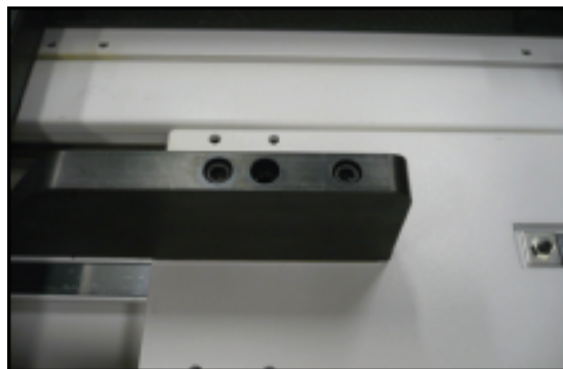

Fig. 29
- Secure kVue to the Exact® couch base using (4) $\frac{3}{8}$ -16 x 4.5" (102 mm) screws provided. The front 2 bolts will be $\frac{3}{8}$ -16 x 5" (114 mm). Torque the 6 screws to 20–30 ft-lbs (34–40 N-m) (Fig. 29).